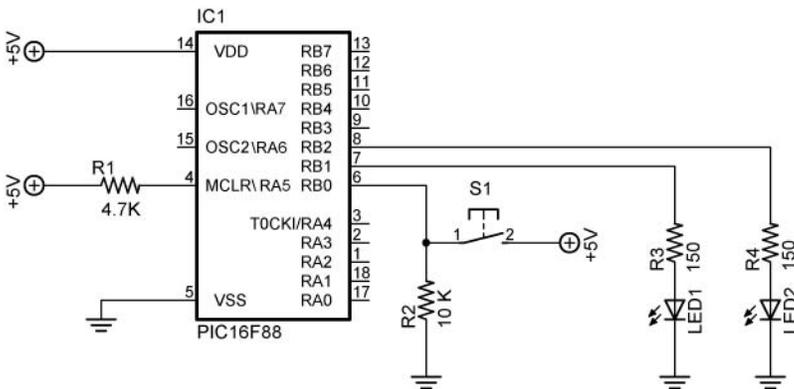

Figure 7: Microcontroller Controlled by Input Pin RB0 and the Corresponding Program
- In the example in Figure 7, the two output pins RB1 and RB2 control the LEDs connected to them by causing the pin to go to +5 volts or 0 volts.